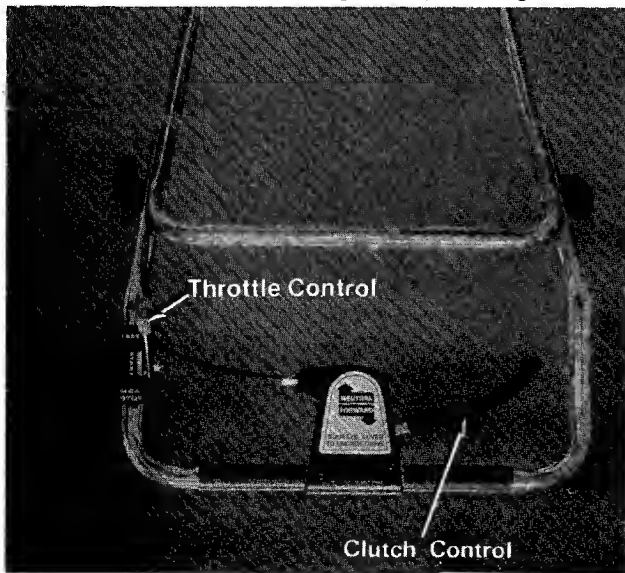

FIGURE 10
Your engine has an automatic choke. The throttle control is used to regulate the engine speed and stop the engine. The engine can be started with the throttle control lever anywhere in the START position. Move the throttle control to the STOP position to stop the engine. (See figure 10.)
5. Lubricate all lubrication points indicated in figures 10 to 13, then wipe the entire machine with an oiled rag in order to protect the surfaces.